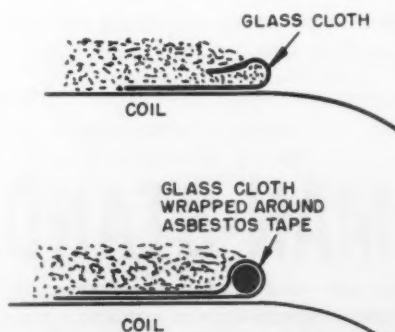

Fig. 5—Ways to confine edges of glass bands.
If you decide to use glass bands, do a good job. The most important points are: (1) Go through the usual temporary binding procedure. (2) Use a tension device that gives a continuous indication and holds tension closely. The stationary-pin type won't do. (3) Heat the armature to 125-135 deg C and band while hot. (4) Confine the edges of the band. The extended slot wedges will do this next to the core. At the outer edge of the bands use a temporary dam or a built-in retainer, Fig. 5. (5) Don't try to keep full tension clear to the end of the tape. Let the last turn or two slack off a little after cutting. Then secure the end by pulling it under or ironing it into the preceding turns. (6) Bake the armature to solidify the bands.